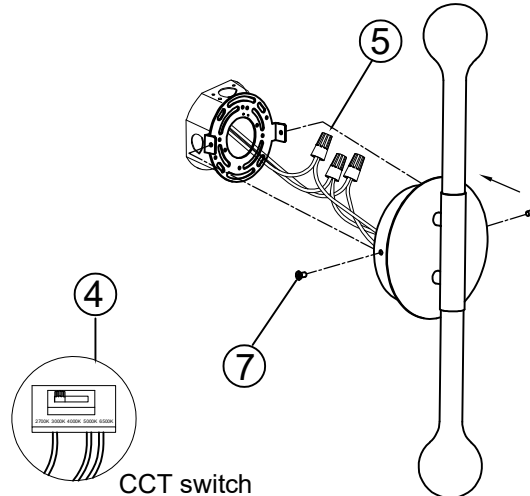

Fig.2
8. Place the fixture over the mounting bracket. Install the four screws on the sides of the fixture to secure it to the wall (Fig.2).